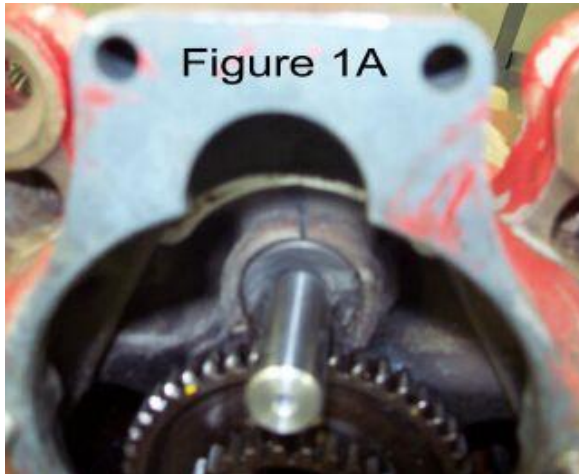

Figure 1A
3. Cut off pinion shaft as shown on Figures 1A through 1F using a die grinder or high-speed motor with cut-off wheel.